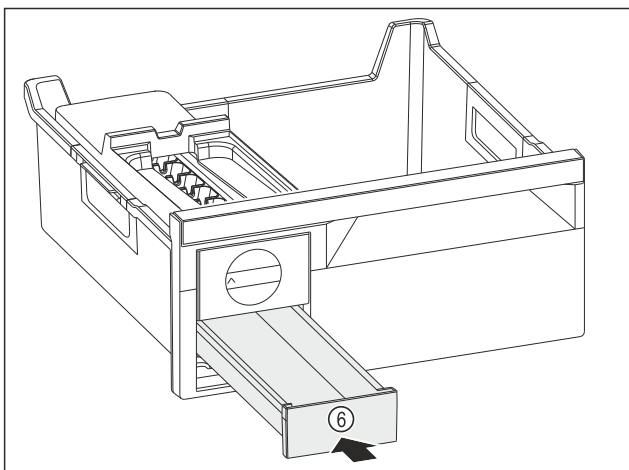

Fig. 84
- ▶ Insert the ice cube drawer Fig. 84 (6).